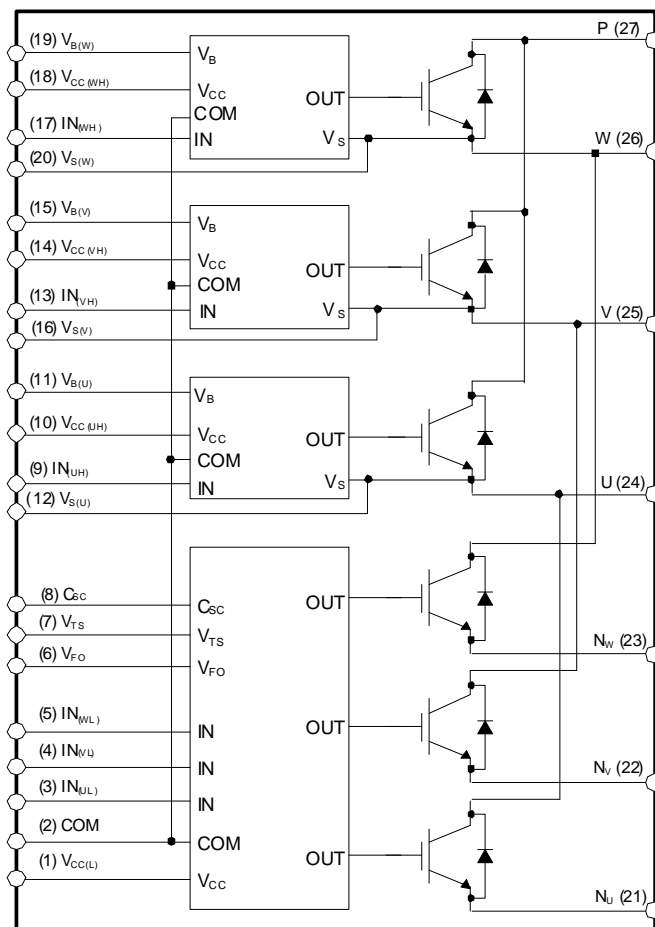

Figure 3. Internal Block Diagram
- 1200 V - 10 A IGBT inverter for three-phase DC / AC power conversion (Please refer to Figure 3)